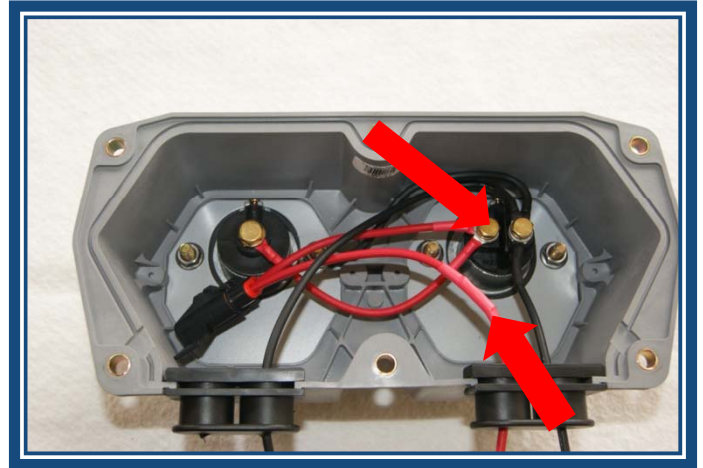

Figure 16
Step 16: Connect the red positive wire of the main harness to the fuse assembly with orange leads. The fuse assembly already has a butt connector attached. Just slide a piece of the included red heat shrink on the wire, then crimp and solder the connection. Slide the heat shrink over the connection and apply heat. Connect the other end of the fuse assembly to the positive side of the dual pole receptacle and tighten the bolt to specification. (See Figure 16)